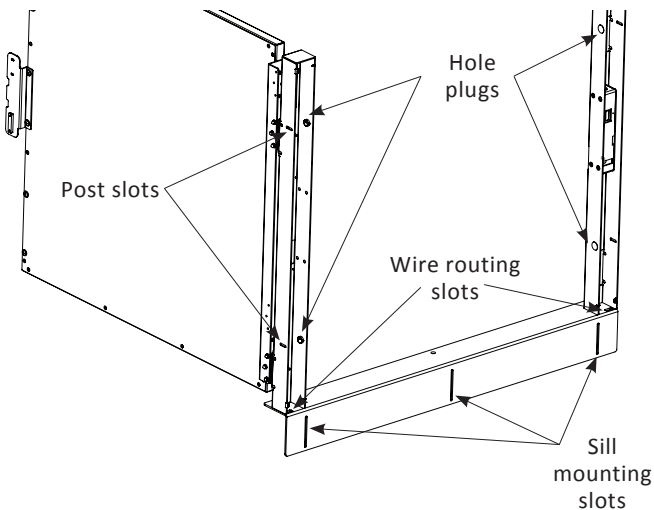

Figure 4-16
6. Create the necessary space below the gate sill so the wire can be routed into the gate post through the wire routing slot. *See Figure 4-16.*